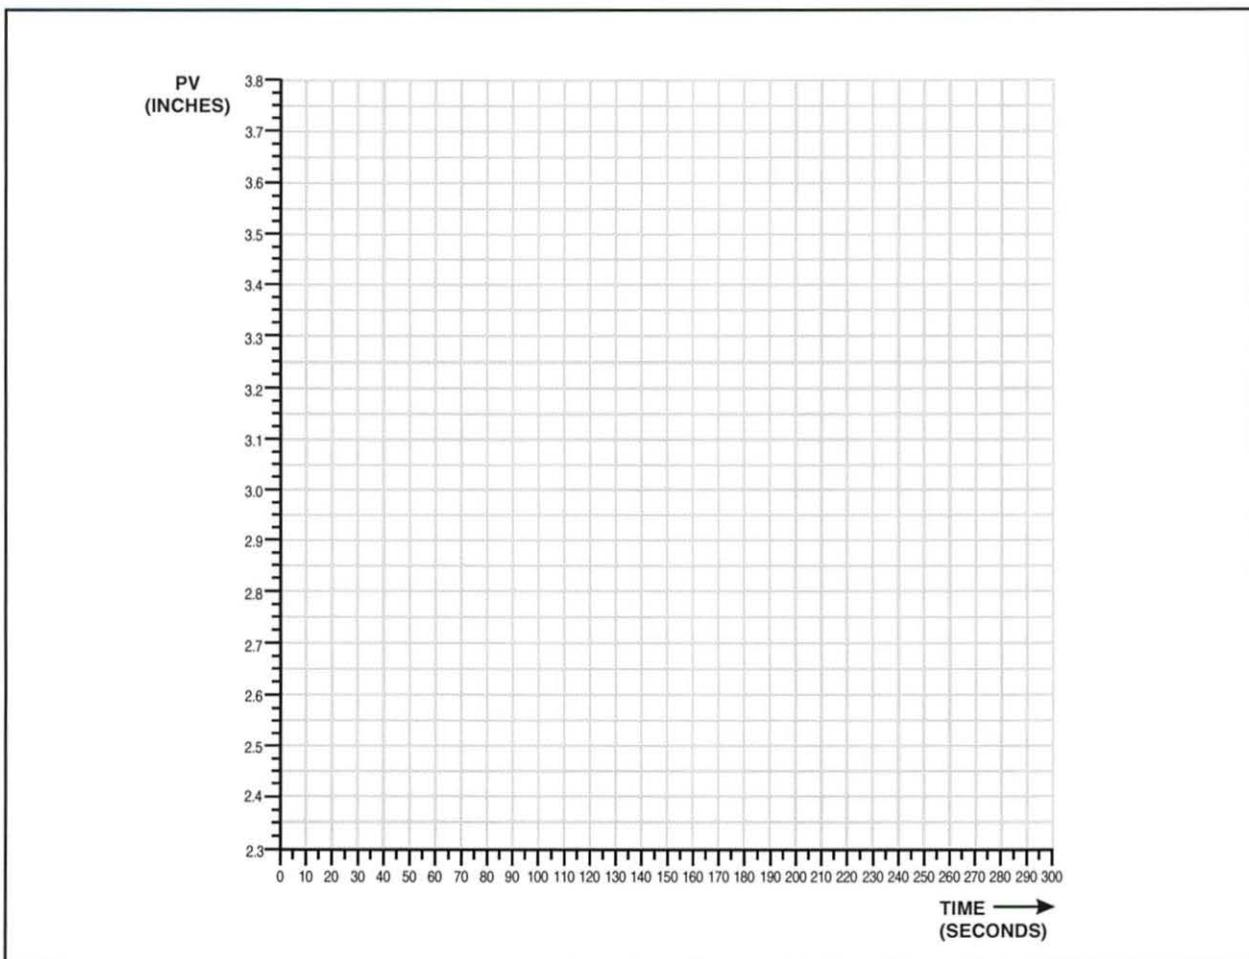

Figure 62. Graph of PV vs. Time
- E. Create a graph of PV vs. time, similar to figure 62, on a piece of graph paper.